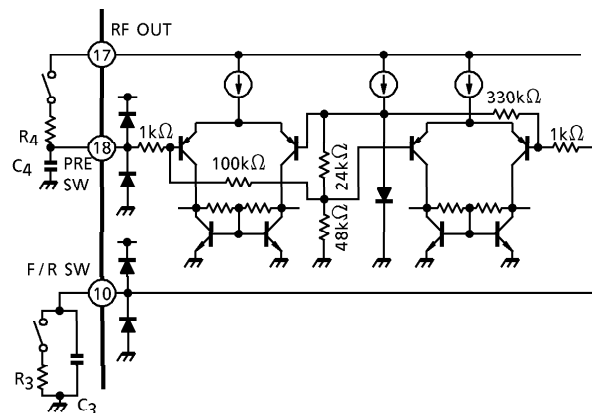

Fig.2 Internal equivalent circuit of F/R SW and PRE SW and the external circuits reducing a pop sound in switchover
(3) F/R SW
The terminal of F/R SW (pin⑩) should not be applied to higher voltage than V₁₇ (RF OUT), because the ripple filter circuit supplies the F/R SW circuit with power source. And in reverse mode, the terminal of F/R SW should be connected with GND line through R₃ (180~270kΩ), because the F/R SW circuit doesn't operate normally. It is advised to connect an external capacitor (C₃≐1μF), in order to reduce a pop sound in switchover between F/R mode (see Fig.2). As for the constants, select the optimum one depending on each a set carefully.
It is advised to connect a external resistor (R₄ = 100~330kΩ) and capacitor (C₄ ≐ 1μF), in order to reduce a pop sound in switchover between PRE SW on / off mode (see Fig.2). As for the constants, select the optimum one depending on each a set carefully.